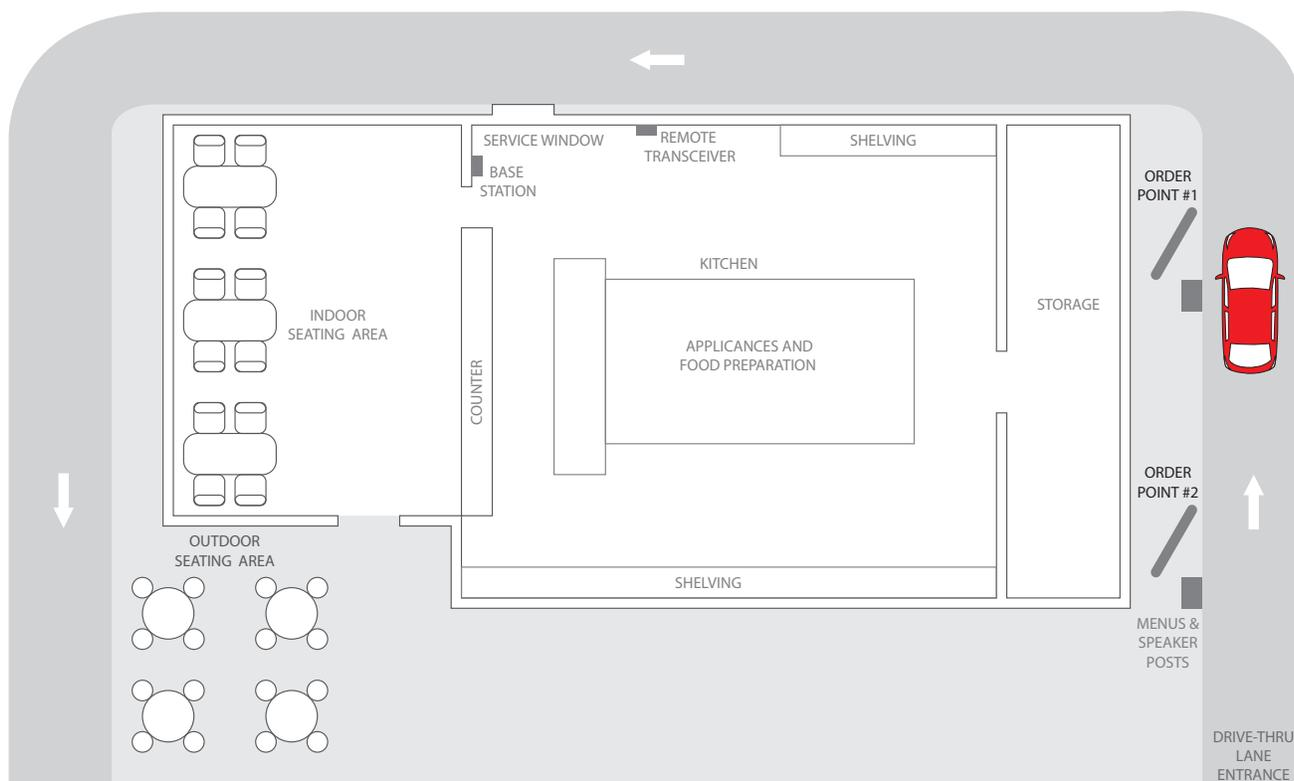

Fig. 4.3
**Pull Forward:** This message is only used for stores with a Tandem Lane configuration. It is enabled by default. In Tandem operation, customers at Order Point #1 are served by Order Taker #1 (e.g., red vehicle in Fig. 4.3) and customers at Order Point #2 are served by Order Taker #2.
forward” message will automatically be played from the Speaker Post or Menu Board #2. For example, in Fig. 4.3. when the customer in the red vehicle first arrived at Order Point 2, there was no customer in front at Order Point #1 so the Pull Forward message played requesting the customer to pull forward to Order Point #1. This clears Order Point #2 to receive the next customer.
Tandem: a store with two order points but only utilizing a single lane (an order point in-line after the other). Also see Message Types: Pull Forward and Fig. 4.3 under “Messages” on page 22.